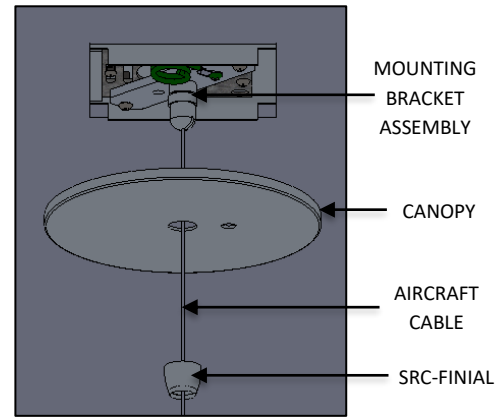

FIG. 32 – CANOPY INSTALLATION
23. Feed the remaining AIRCRAFT CABLE from the MOUNTING BRACKET ASSEMBLY through the center hole of the CANOPY and SRC-FINIAL. Loosely secure CANOPY to the ceiling by threading the SRC-FINIAL to the MOUNTING BRACKET ASSEMBLY as shown below in FIG. 32.